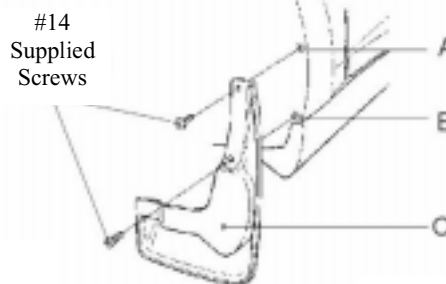

Fig. C-3
-  4. Mount mudguard on body panel and install supplied #14 screws in location A and B while holding part tight against body. (Fig. C-3)